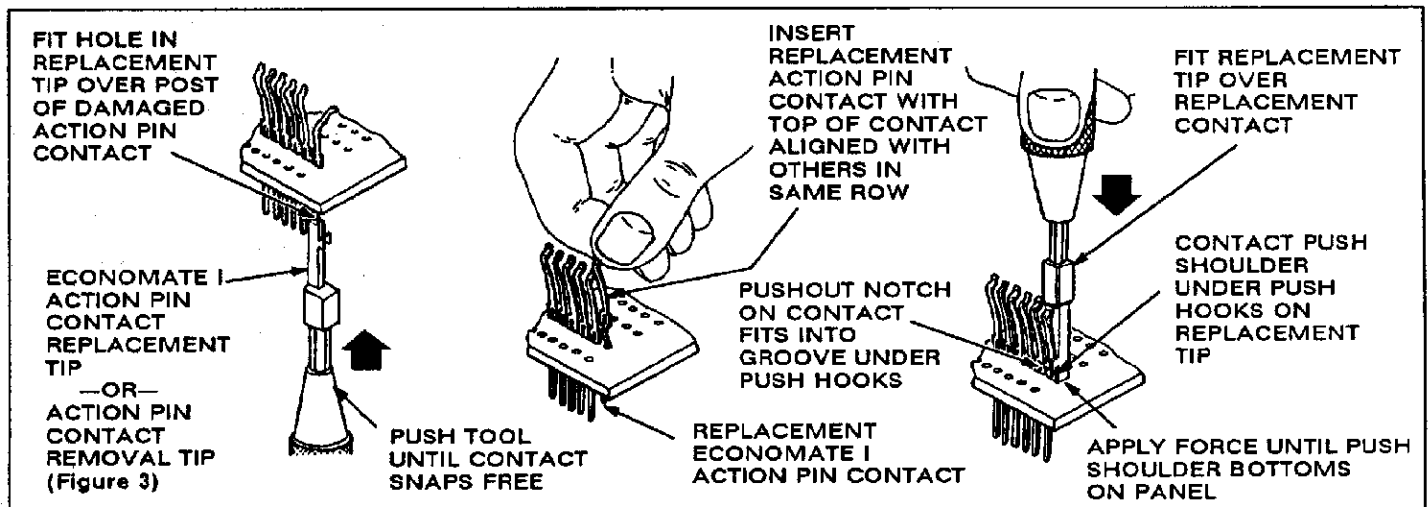

Fig. 5
4. ECONOMATE CONTACT REPLACEMENT (Figure 5)